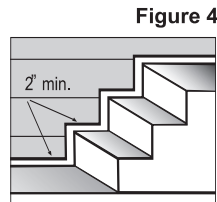

Figure 4
- Maintain a minimum 2" clearance between James Hardie products and roofs, decks, paths, steps and driveways (figs. 4 & 5).